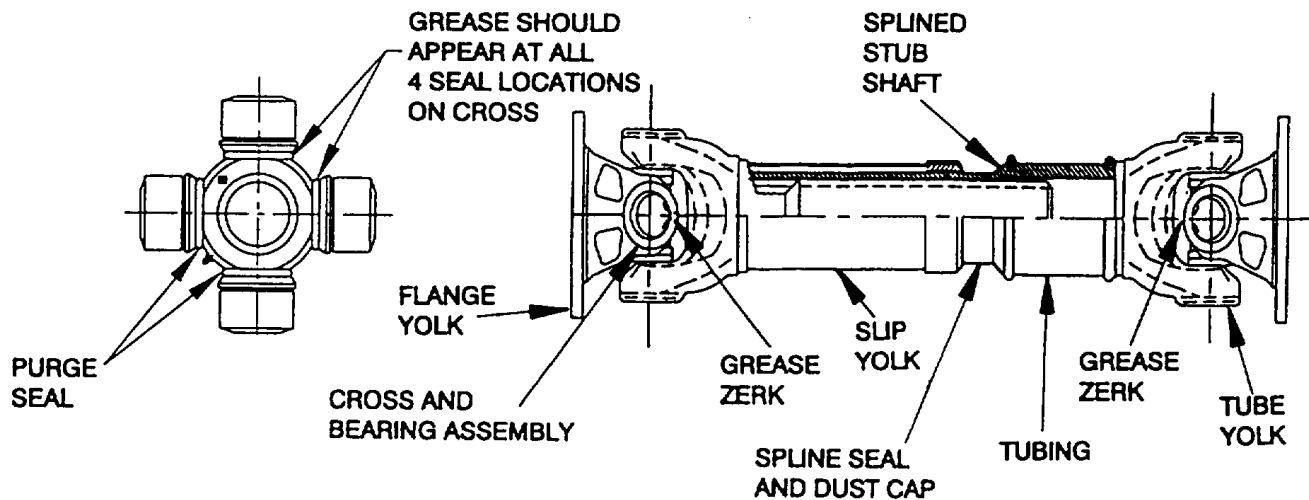

Figure 2-5. Drive Shafts, Service.
- (1) Check bolts and mating flanges for tightness and correct seating. To ensure even tightening of bolts, any loose bolts should be tightened in sequence, alternating sides and moving around the flange in only one direction. Re-torque in accordance with settings listed in Appendix D, Table D-1.
- (2) Check for play in the cross and bearing and slip spline before regreasing. If any looseness or play is felt the shaft must be overhauled.
- (3) While running, listen for abnormal noise and check for unusual vibration. The source of any such noise or vibration should be located, reported and corrected immediately.
b. Service. (figure 2-5)
- (1) lubricant to bearing assemblies until it appears at all journal cross bearing seals.
- (2) If all seals do not "purge" when being lubed, move the driveshaft laterally in all four directions, or tap on the yoke lugs with a soft faced hammer while applying pressure to the alemite fitting.